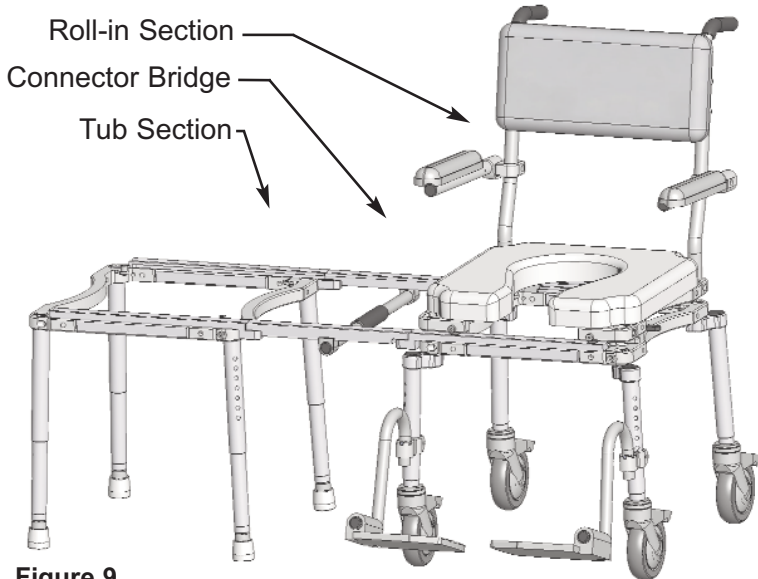

Figure 9
**A Reconfigure the multiCHAIR 6000 with the Tub Section on the user's right side (Refer to Figures 9, 10 & 11):**